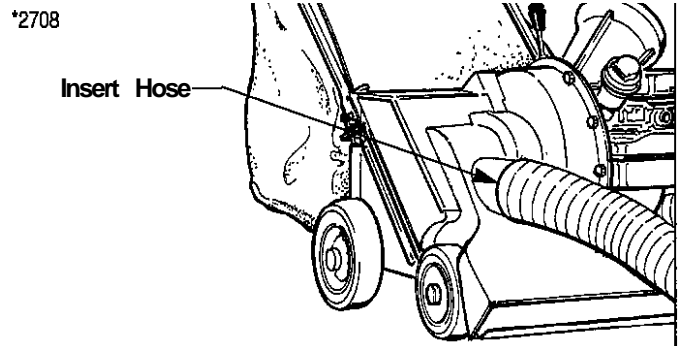

Figure 6. Insert Vacuum Hose Connector Into Hose Intake Opening
4. **Insert** the connector end of the vacuum hose into the intake opening, using care to fully seat the connector in the opening. If the connector is not fully inserted, and electrical interlock switch will keep the unit from starting or running (Figure 6).